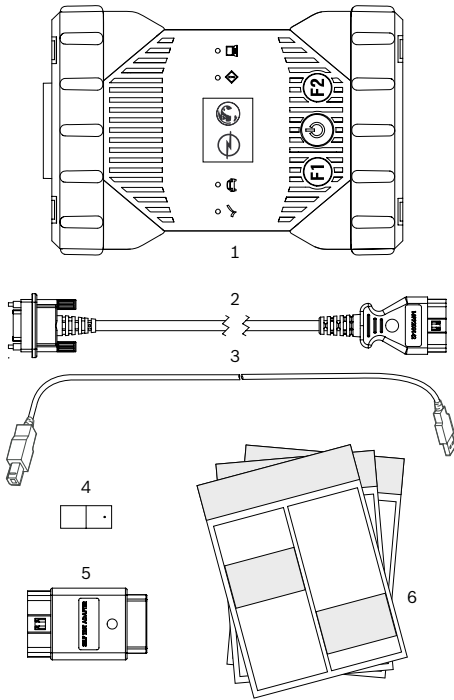

Fig. 1: Scope of delivery (1a or 1b)
1. Use the USB connecting cable supplied (fig. 1, item 3) to connect the Opel-Vauxhall-VCI (fig. 1, item 1) to the computer.
1. Connect the Opel-Vauxhall-VCI (fig. 1 item 1) to the OBD connection of the vehicle using the OBD connection cable (fig. 1 item 2).